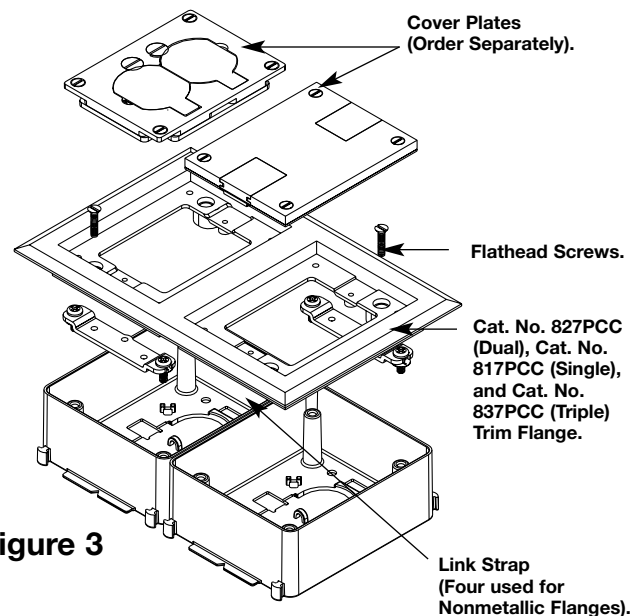

Figure 3
5. Using hardware bag 97650A secure link straps to posts in preset. Position straps in outer presets for three gang flange. None are used in center preset. Install two flat-head screws in opposite corners to attach flange to link straps. Two lengths of screws are provided to accommodate variations in concrete pour depth (see Figure 3).